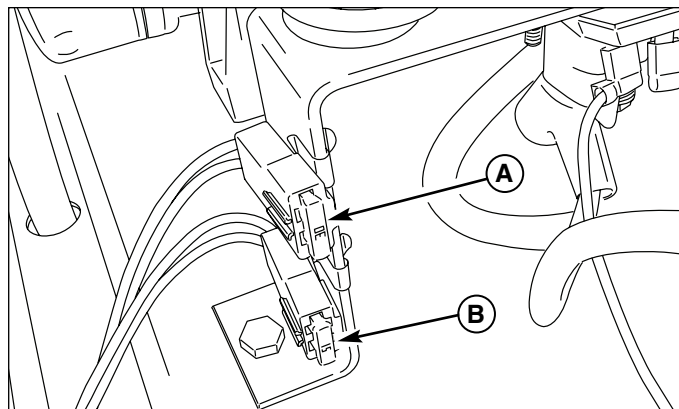

Figure 36. Fuse Designations and Ratings
3. Remove and check the suspected fuse (or fuses). If blown, replace with a fuse with a rating equal to the ratings indicated in Figure 36.